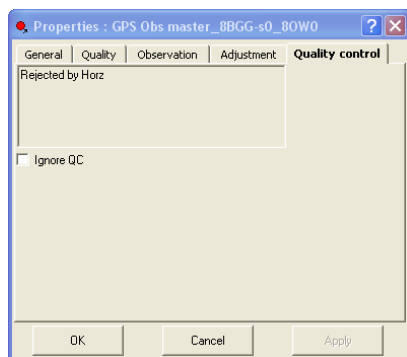

Figure 5-95. Quality Control Properties
6. View *Quality Control* tab contains informational text on selected observations (marked in red on the views) that did not pass some of the quality control checks (Figure 5-95).